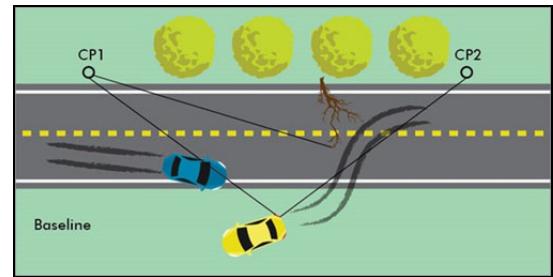

Figure 10
Measure from the feature to the control points and in some cases measure from the control points to the feature. The two control points and the feature form a triangle, and the geometry of the triangle is used to determine X, Y (or X, Y, Z) coordinates for each feature (Figure 10).
- Looking at Figure 10 above, from CP2 the car is blocking the view to the end of the skid mark. From the Measure Menu, the Set New CP2 option redefines CP2 (Page 45), and then continue measurements using the new CP2.